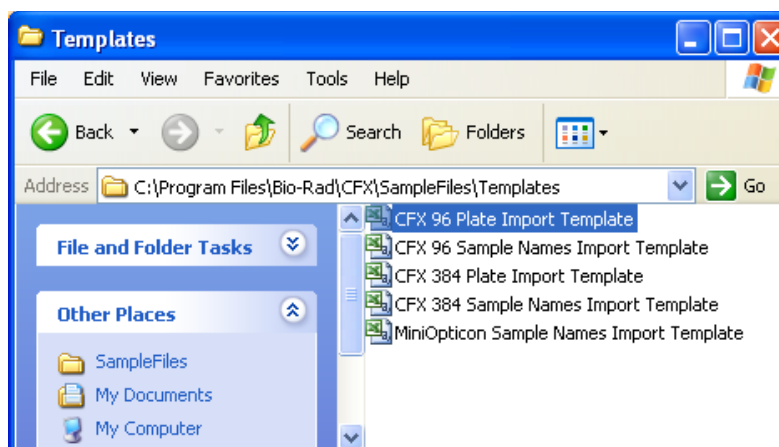

Figure 113. Opening the LIMS CFX96 Plate Import Template
2. Select either **CFX96 Plate Import Template.csv** or **CFX384 Plate Import Template.csv** and import into your internal LIMS (Figure 113).